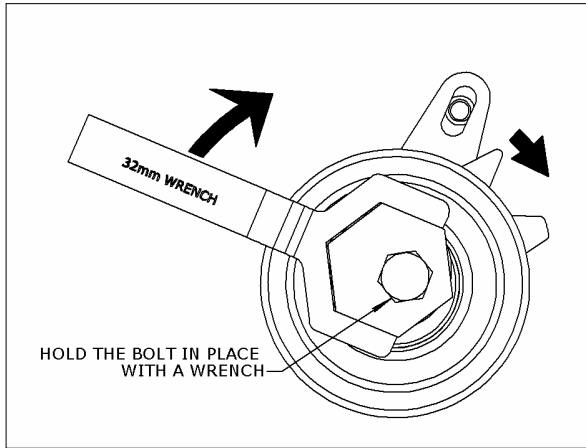

Figure 3: Adjustment of Tensioner with a 32mm Wrench
6. Rotate the Installation Shaft **CLOCKWISE** with a 32mm Wrench. Make sure to hold the mounting bolt with a 13mm Wrench in order to prevent it from turning when rotating the Installation Shaft. The Tensioner assembly will move against the belt and the Arm Pointer will eventually start to move **CLOCKWISE** (See Figure 3).